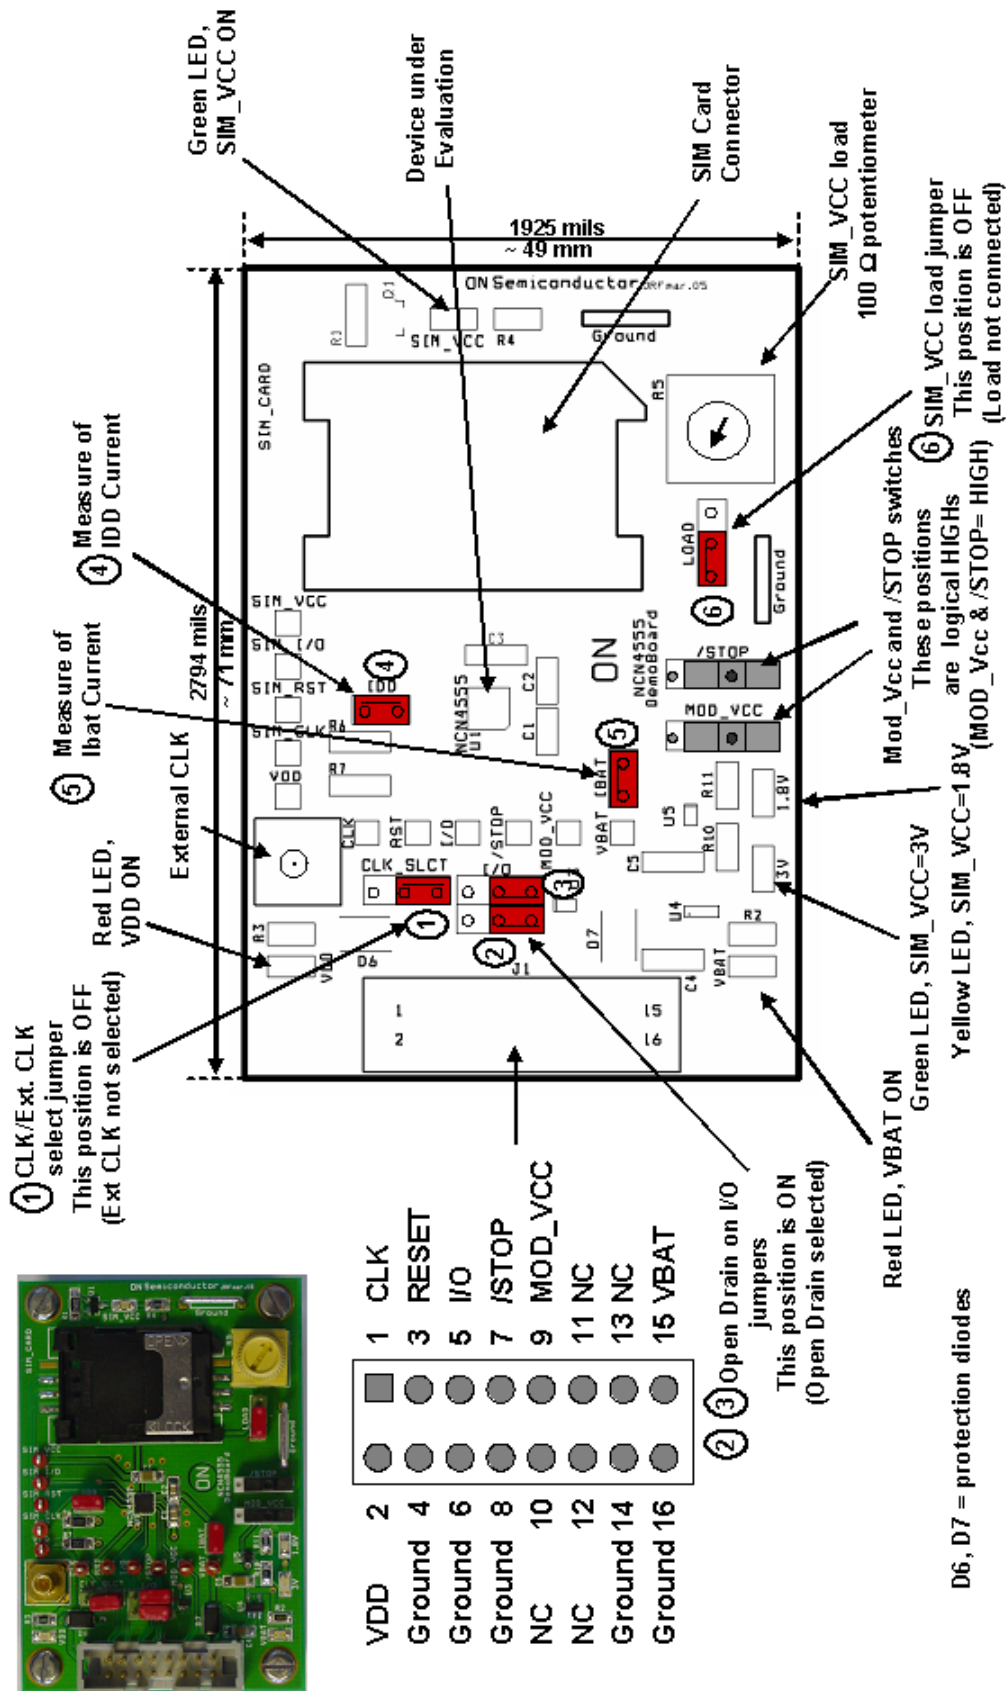

Figure 2. Evaluation Board Details
(See Figure 2, all the positions of the switches given below referred strictly to the logical positions (High or Low) indicated in Figure 2)
Initial Setups (Figure 2)
- Jumper 1: As shown in Figure 2, internal clock selected (through HE10 connector).
- Jumper 2 and 3: Jumpers in position Off contrarily to Figure 2 where the position is On. The Open Drain will then be unconnected and the I/O signal will be applied directly to the I/O NCN4555 input through the HE10 connector.
- Jumper 4: Plugged like Figure 2.
- Jumper 5: Plugged like Figure 2.
- Jumper 6: As shown in Figure 2, 100 Ω potentiometer is not connected.
To evaluate SIM_CLK a clock signal has to be connected either using the external clock input (SMB connector) or through the HE10 connector. The selection is done using the corresponding jumper (see Figure 2). The max clock frequency will be 5.0 MHz, and the signal will have to accommodate the specifications provided in the data sheet.